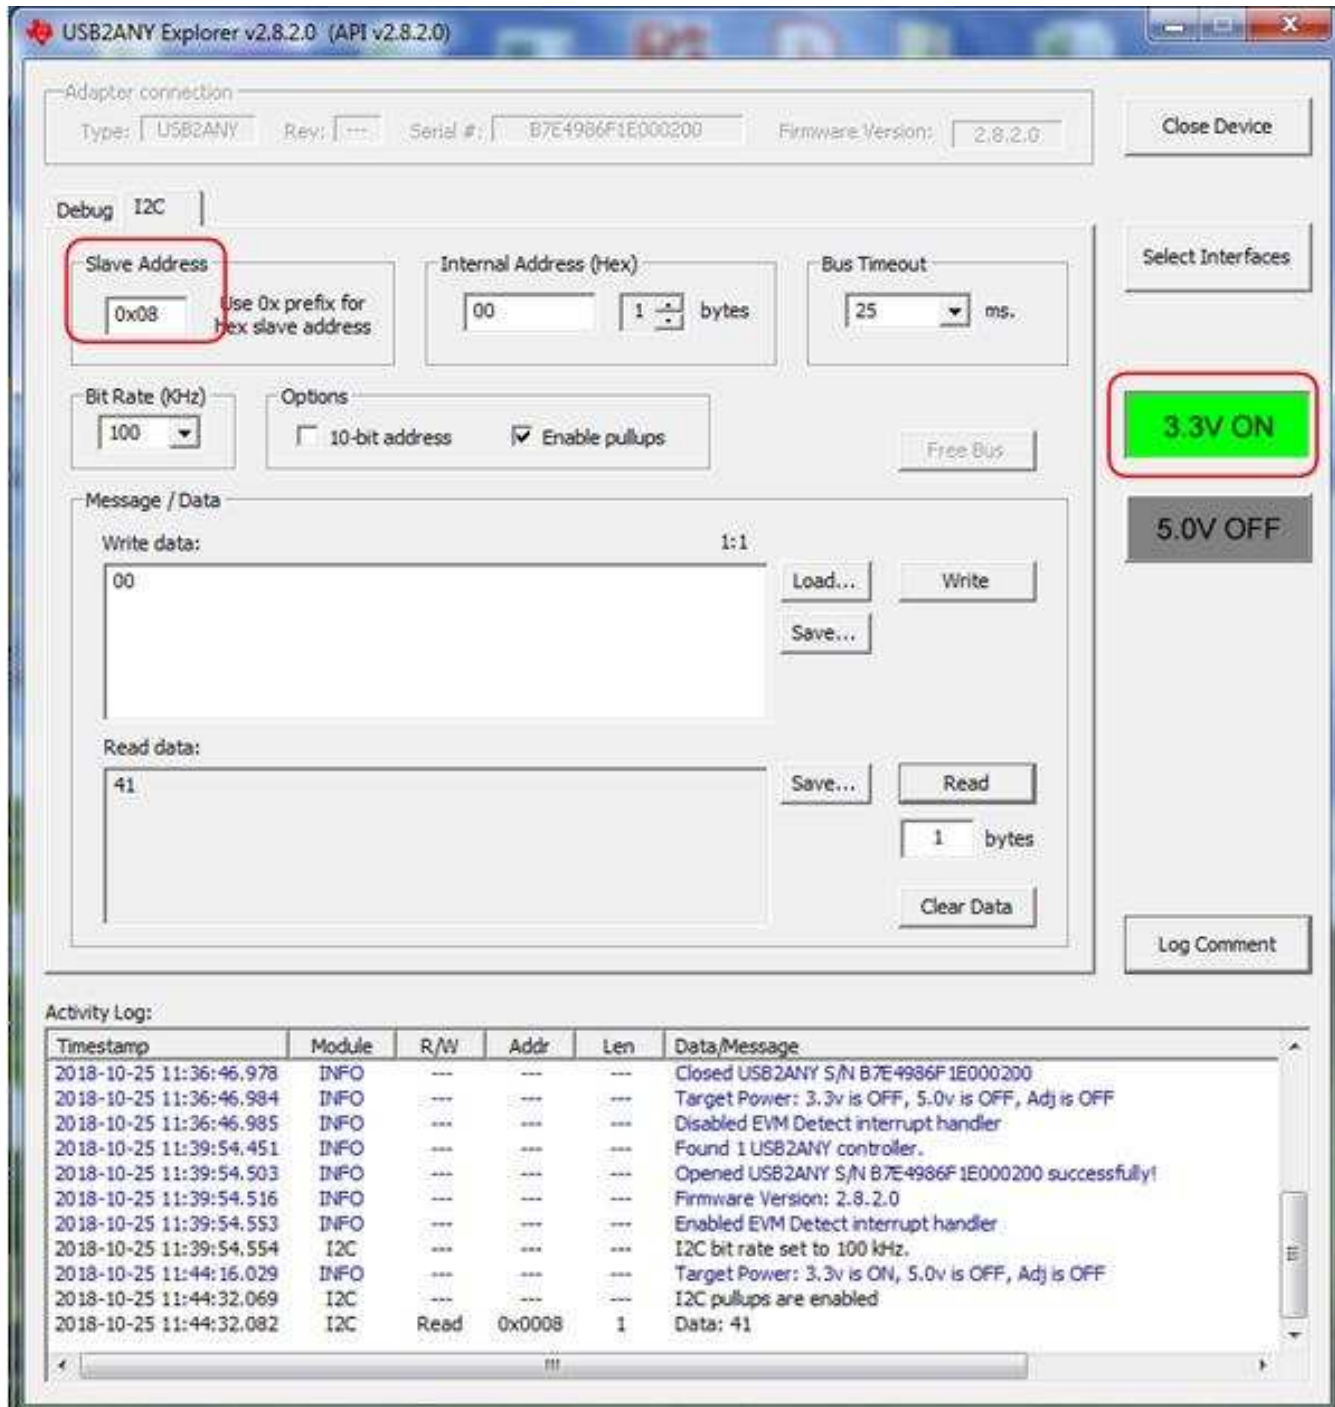

Figure 8. USB2ANY Slave Address
- Click on the USB2ANY tab and change the slave address to 0x08 and turn on 3.3-V supply as shown in Figure 8.